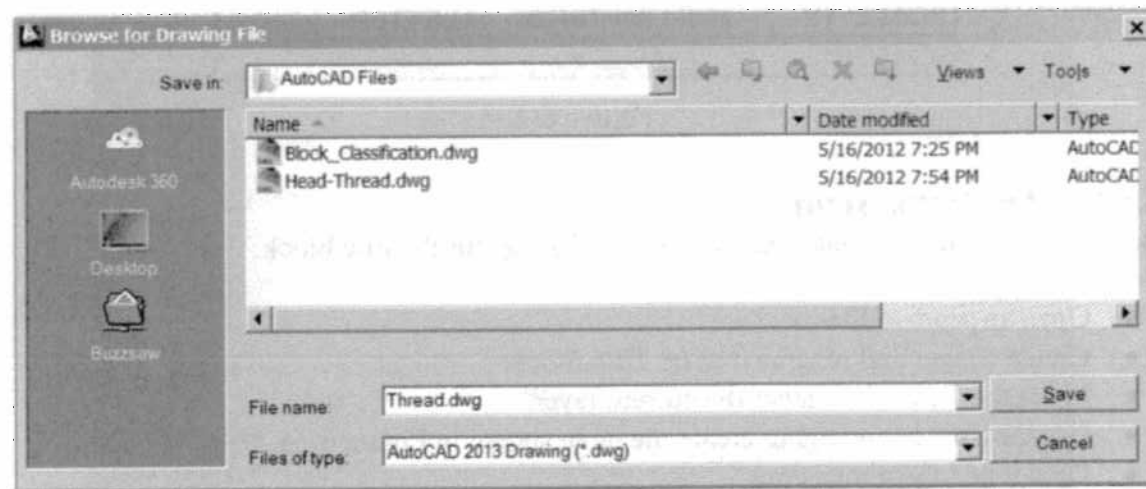

Figure 6-3b
- *Destination*: Select the location to store the Wblock file by clicking () destination button. This will open *Browse for Drawing File* dialog box, Figure 6-3b. Specify the location and click the *Save* button.